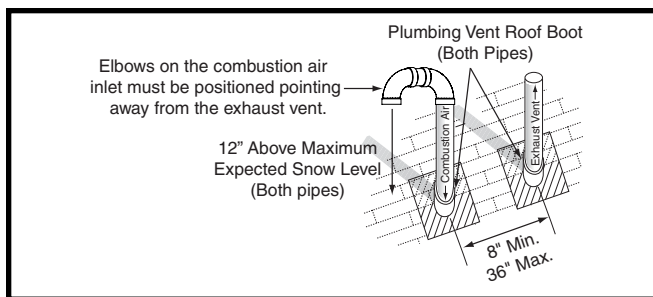

Figure 10. Vertical Vent Termination
each other are shown in Figure 10. The roof penetration must be properly flashed and waterproofed with a plumbing roof boot or equivalent flashing. Vent and combustion air piping may be installed in an existing chimney which is not in use provided that:
- The termination clearances shown in Figure 10 are maintained.